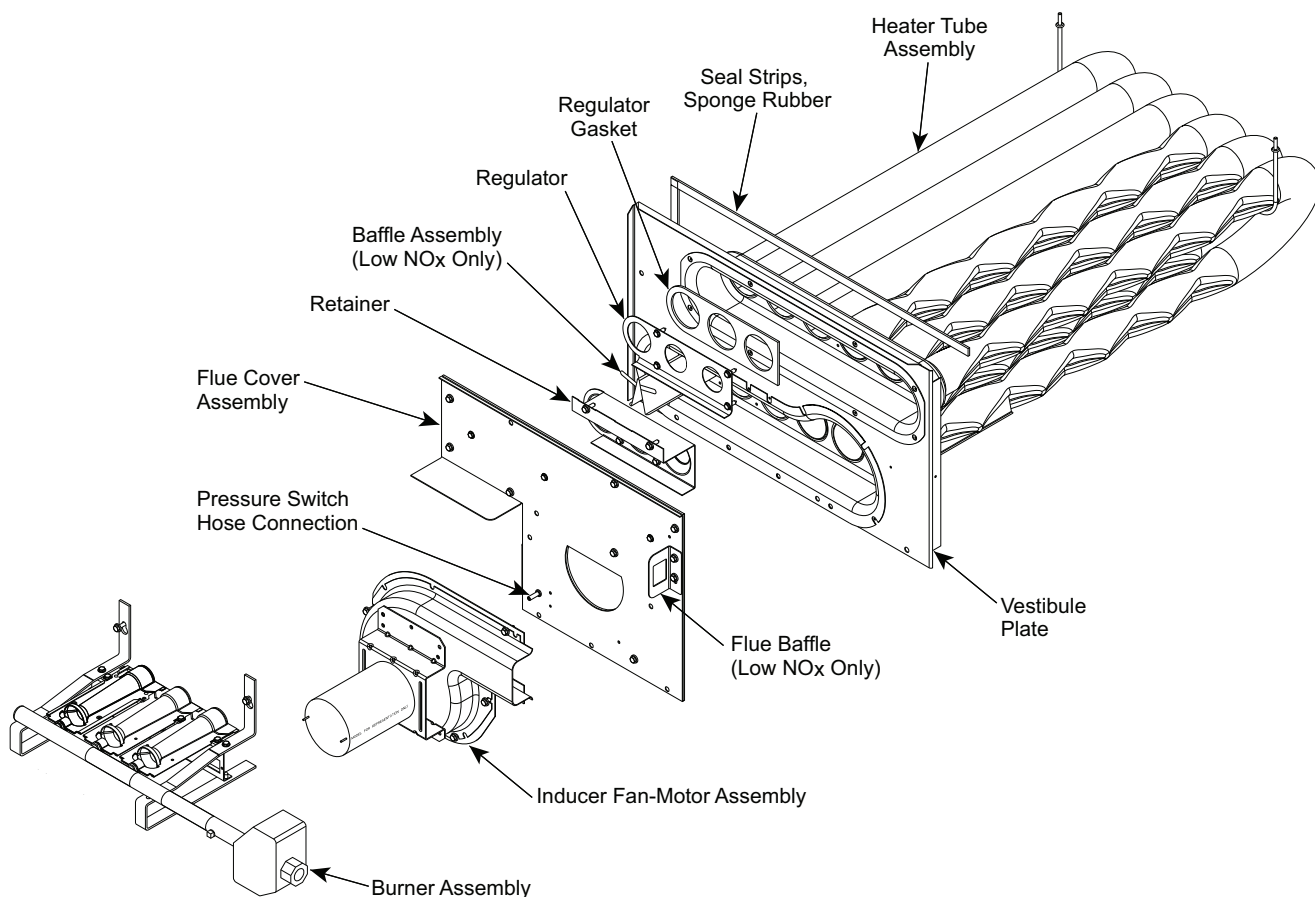

Fig. 54 — Heat Exchanger Assembly
1. Remove the combustion blower wheel and motor assembly according to directions in Combustion-Air Blower section. See Fig. 54.
2. Remove the 7 screws attaching the induced-draft motor housing to the vestibule plate. (See Fig. 54.)
9. Remove the 2 screws attaching the burner rack to the vestibule plate (see Fig. 54).
10. Remove the pressure switch hose from the connection on the flue cover assembly (see Fig. 54).
14. Separate the following from the heat exchanger: inducer fan-motor assembly, flue cover assembly, retainer, regulator, regulator gasket, and if a Low NOx unit, also remove the baffle assembly. See Fig. 54.